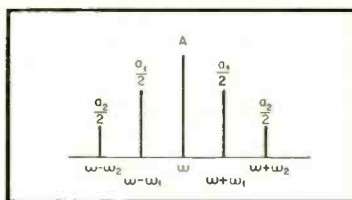

Fig. 2. Signal amplitudes of amplitude modulated carrier.
The prototype constant-resistance circuit for frequency division and its design equations are given in Fig. 1. A circuit for use with speakers of different voice-coil impedances along with its equivalent circuit as seen from the primary of the transformer is shown at (A) and (B) in Fig. 2. The introduc-